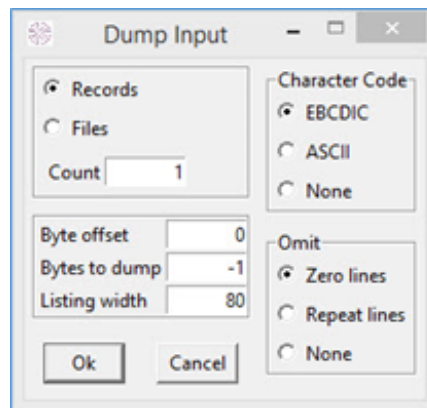

Figure 3-8 Read Input
1. Click on the **Dump** button. Select Input (**Input2/Output**). A Dump Input box will open Figure 3-8 below.